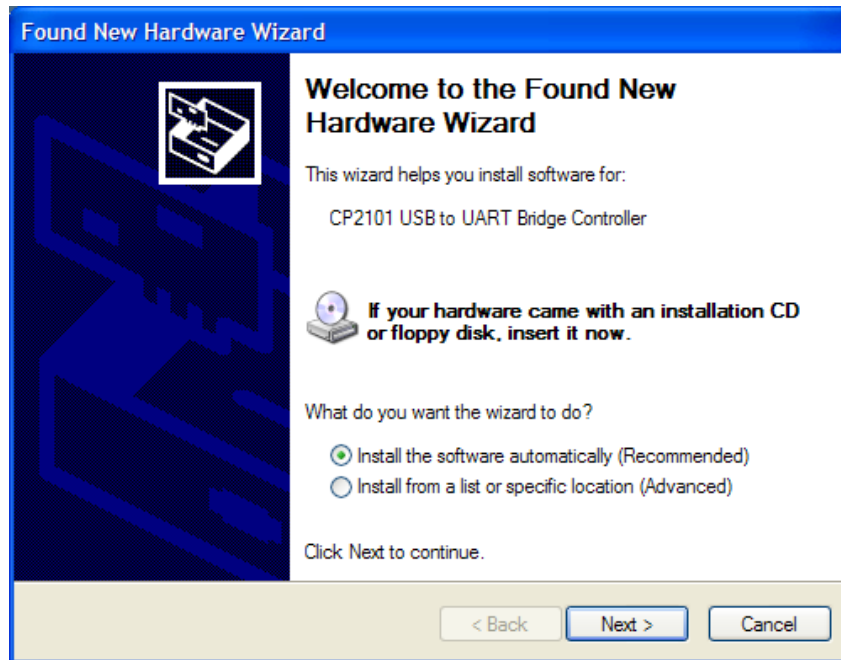

Figure 5 – Found New Hardware Wizard
7. The **Found New Hardware Wizard** launches. Click the radio button to **Install the software automatically (Recommended)** (see Figure 5) and then click Next.